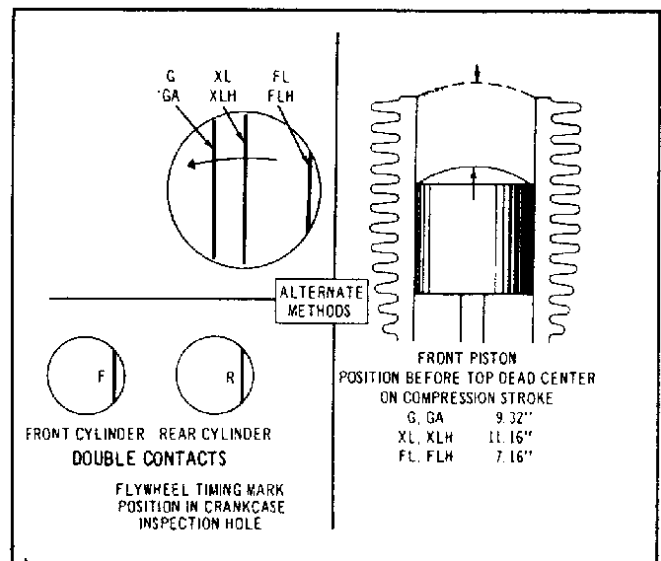

Figure 5F-3. Ignition Timing - Schematic - Manual Advance Circuit Breaker
**TIMING FRONT CYLINDER.** Connect one test lamp wire to circuit breaker yellow wire (12A, Fig. 5F-2) (front spark coil terminal), and the other wire to the battery positive terminal. Ground battery negative terminal to engine. Time front cylinder breaker points (marked "F" on circuit breaker base) with flywheel timing mark for front cylinder aligned in inspection hole as shown in Fig. 5F-3. Same as for single contact point manual advance circuit breaker.
**TIMING REAR CYLINDER.** Connect one test lamp wire to circuit breaker black wire (12A, Fig. 5F-2) (rear spark coil terminal) and the other wire to the battery positive terminal. Ground battery negative terminal to engine.